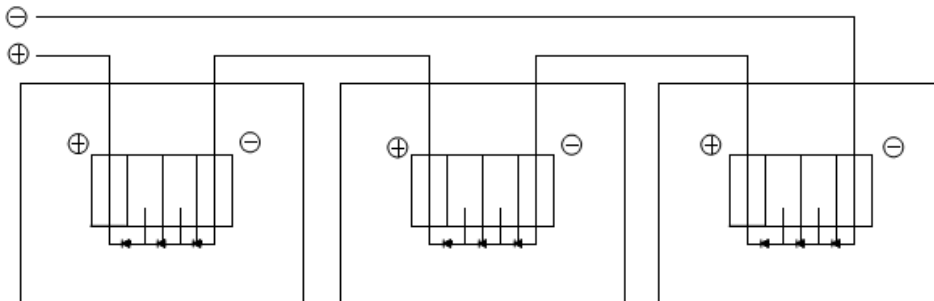

Figure 2.SERIES for more voltage
- ☆ To ensure proper system operation and to maintain your warranty, observe the correct cable connection polarity (Figures 2&3) when connecting the modules to a battery or to other modules. If not connected correctly, the bypass diode could be destroyed.
- ☆ PV modules can be wired in series to increase voltage. Connect wires from the positive terminal of one module to the negative terminal of the next module. Figure 2 shows modules connected in series.